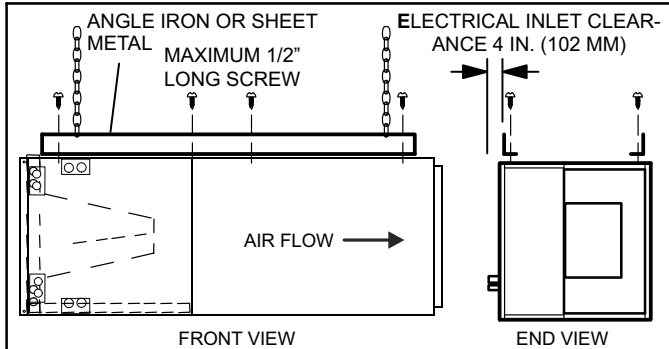

Figure 16. Suspending Horizontal Unit
5. If the unit is suspended, the entire length of the cabinet must be supported. If you use a chain or strap, use a piece of angle iron or sheet metal attached to the unit (either above or below) to support the length of the cabinet. Use securing screws no longer than 1/2 inch to avoid damaging the coil or filter. See figure 16. Use sheet metal screws to connect the return and supply air plenums as required.